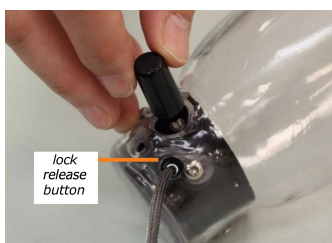

Figure 19
8. Screw the lock release button into place (Figure 19). Be careful not to cross-thread or over-tighten.